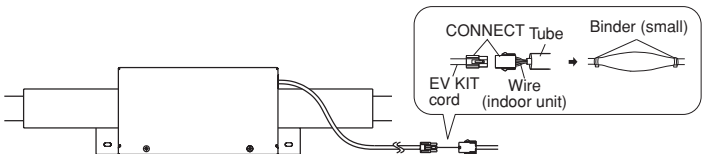

Fig 5-7.
- (1) Connected the EV KIT cord to the indoor unit.
- (2) Wrap the tube around the connection, and then fasten both ends with the binders (small) (Fig 5-7.)
- (3) Fasten the EV KIT cord to the piping, etc., with the binders (large) to remove any slack in the cord.